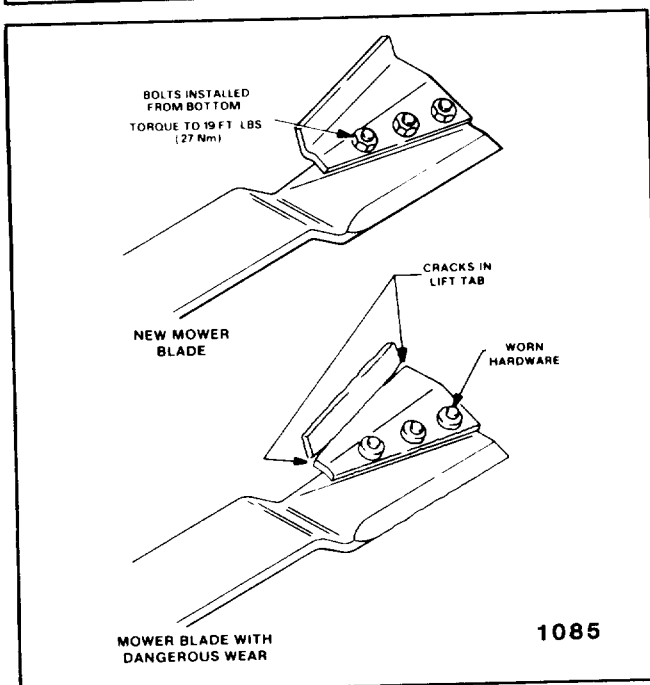

FIG. 13. Inspect High Lift Blade
2. Install new lift tab as shown in figure 13; use ONLY hardware supplied with replacement lift tab. Tighten hardware to specified force value.